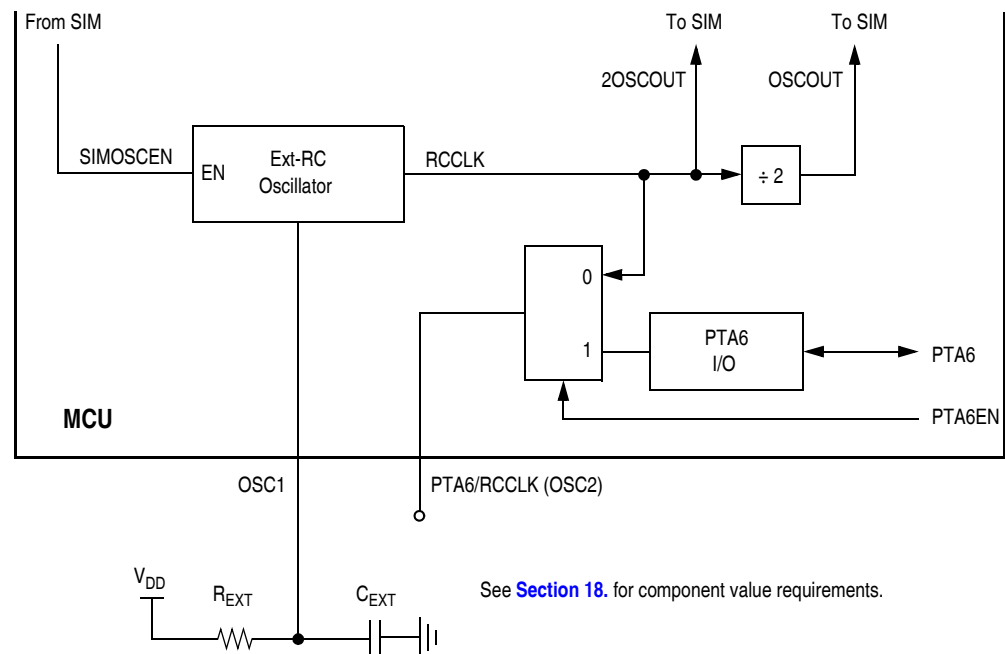

Figure 8-2. RC Oscillator External Connections
RCCLK is the RC oscillator output signal. Its frequency is directly proportional to the time constant of the external R and C. Figure 8-2 shows only the logical relation of RCCLK to OSC1 and may not represent the actual circuitry.
4. RCCLK is the RC oscillator output, for MC68HRC908xxx. See Figure 8-2.